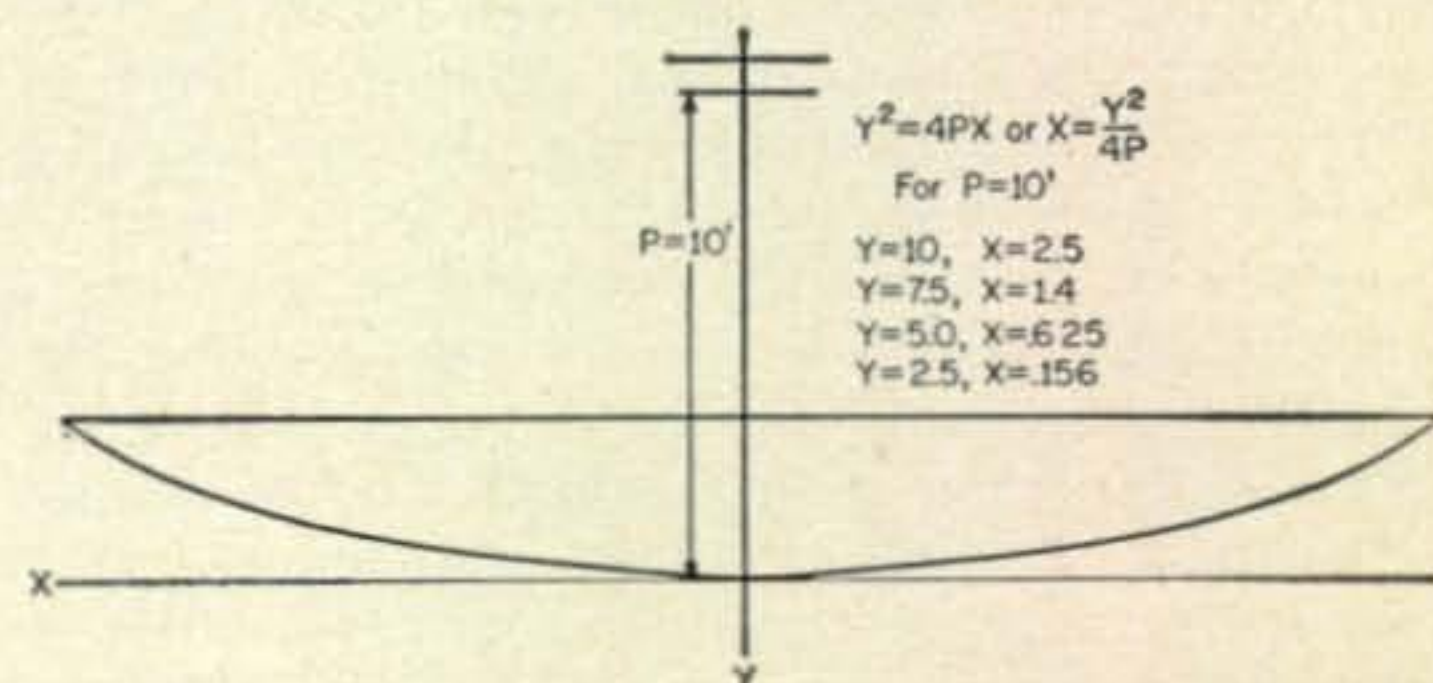

Fig. 4—Graph of a parabolic curve for a 20 foot dish with an f/d ratio of 0.5.
The parabolic curve decided upon should be carefully plotted on a sheet of graph paper. The analytic geometry relation $Y^2=4fX$ (where f equals the focal distance), is the equation of a parabolic curve. For our chosen f/d of 0.5 and 20 foot diameter, f turns out to be 10 feet. Plugging this value into the equation, one can solve for the X coordinate (height of the curve) in terms of the Y coordinate (radius of curve). (See figure 4.)
The case is made of sections cut from two 20-ounce food tins, prepared as shown in figs. 4(B) and 4(C). Notch the lower end of the top part as indicated, and bend the tabs so formed to fit inside the top flange of the bottom portion. Work on the thin metal will be made much easier and safer if you first cut enough wooden discs to fill the portions used, and then clamp the cans endwise between blocks in a vise. Bore 1" holes through the centers of the discs, to facilitate removal as various operations are completed. The outer seams and minor dents in the tins should be filled with solder and filed flush with the surface.
Mount and connect all components as shown, leaving the ground and off-the-board leads until last. Make the ground ring from flashing copper as indicated in fig. 4(A); turn the assembled parts board upside down, and lay the ring in position on top of it. Bend all ground leads flat against the ring, leaving a small loop in each to facilitate attachment of a heat-sink clip, and solder into place. Solder three #4 soldering lugs, mounting holes protruding over the outer edge, to the ground ring in the remaining spaces about 120 degrees apart. These will serve to attach the entire assembly to the top of the lower case, after the small filament transformer is in position.
Fig. 4—(A) Dimensions of the ground ring made from flashing copper. (B)—Dimensions of the case top section cut from a 20 ounce food tin. (C)—Dimensions of the case bottom section also cut from a 20 ounce food tin.